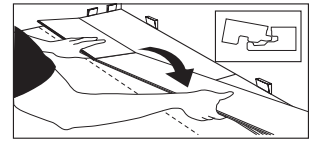

Figure 6
- Continue installing full boards in the second row by angling the short end of the next board in the row to lock into the previous board (Fig. 6). Position the board so that the long side of the board is close to boards in the previous row and overlapping the groove of the boards in the previous row.
- Continue installing full boards in the second row in the same fashion to lock into the previous board (Fig. 6). Position the board so that the long side of the board is close to boards in the previous row and overlapping the groove of the boards in the previous row.